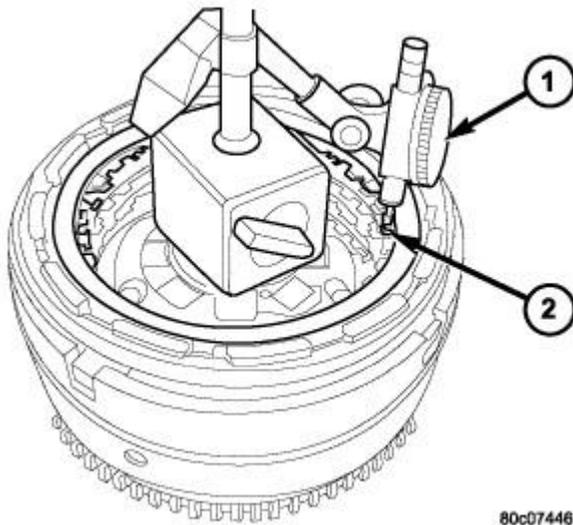

Fig. 115: Measuring Reverse Clutch Clearance
28. Mount a dial indicator to the assembly, push down on the clutch discs, pull up on the reaction plate to ensure the plate is properly seated and zero the indicator against the reverse clutch discs (2). Refer to **Fig. 115**. Apply 20 psi of air pressure to the reverse clutch and record the dial indicator reading. Measure and record Reverse clutch pack measurement in four (4) places, 90° apart. Take average of four measurements and compare with Reverse clutch pack clearance specification. The correct clutch clearance is 0.81-1.24 mm (0.032-0.049 in.). Adjust as necessary. Install the chosen snap-ring and re-measure to verify selection.